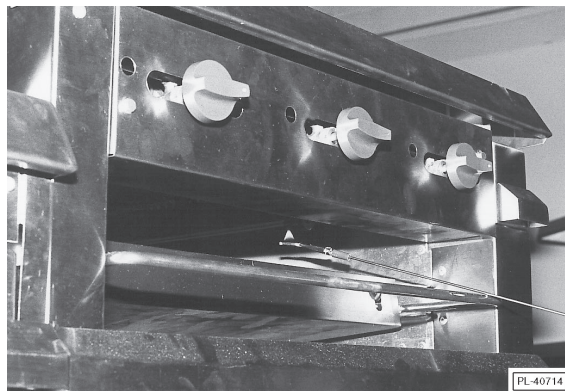

Fig. 13
2. Wait 30 seconds and, using a taper, light the hot or griddle top pilot (Fig. 13).
2. Wait 30 seconds and, using a taper, light broiler/griddle pilot (see Fig. 13).